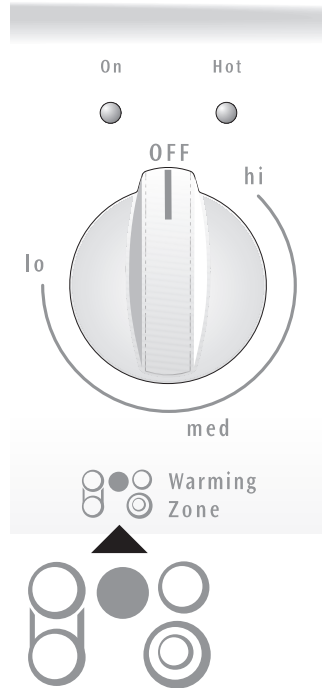

Fig. 1
1. To set the control, push in and turn the knob. The **On** indicator light will come on (See Figs. 1 and 2). The temperatures are approximate, and are designated by HI, MED and LO. However, the control can be set at any position between HI and LO for different levels of heating (Fig. 1).
2. When done, turn the control to OFF. The **Warming Zone Hot surface indicator light** will remain on until the **Warming Zone** cools to a moderate level (See Figs. 1 & 2).